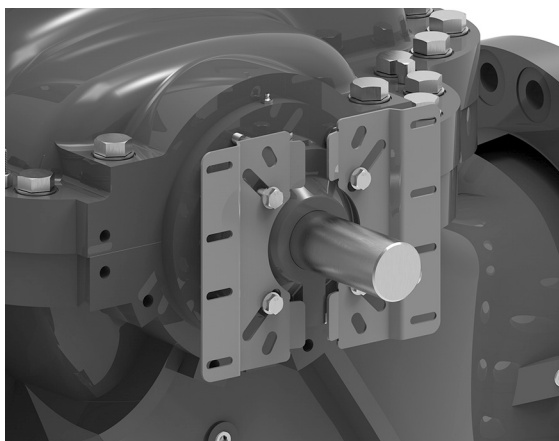

Figure 39: Large bracket mounted to pump bearing gland (without guard assembly)
1. If the two mounting brackets [5] are not already mounted on the inboard bearing gland (see Figure 39: Large bracket mounted to pump bearing gland \(without guard assembly\) on page 97), attach them as follows: